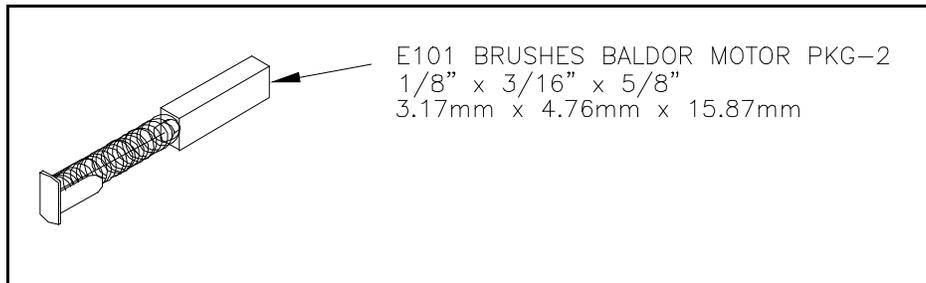

Figure 11. Replacement brushes
- 7.6.9 The brushes will stop working when they are about 1/4" long. If the length of the carbon brushes is less than 3/8" or the brushes are unequal lengths, replace **BOTH** brushes as a set. Use the brushes supplied in the accessory kit or order Wells part number **E101 BRUSHES BODINE SMALL PKG-2**. See Figure 11.